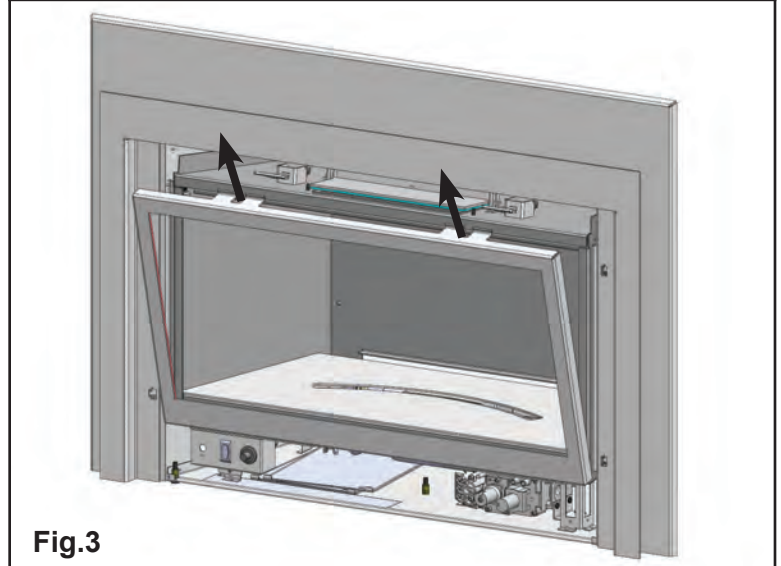

Fig.3
2. Carefully slide the door glass assembly up and out of the unit and set it aside.(Fig.3)